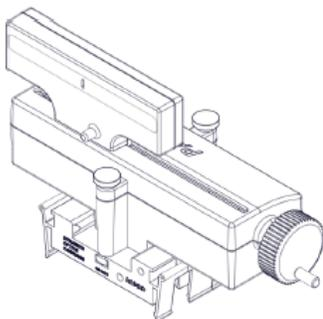

Figure 3. Diffraction Scanner mounted to two Dynamics Optics Carriages.
2. Insert the front square nut into the center slot of a Dynamics Track Carriage, then tighten the front mounting screw (Figure 3).